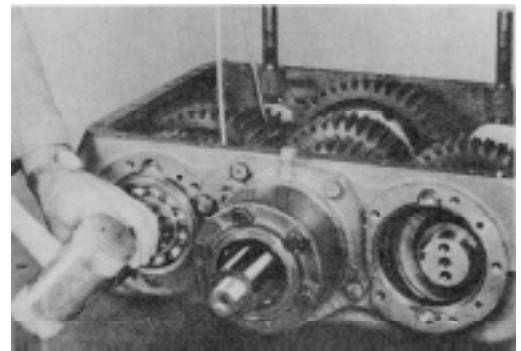

Figure 9B-89. Installing Countershaft Bearing
11. Install the countershaft front bearing retaining plates, Figure 9B-90. Secure with the capscrews and torque to 6080 lbs. ft. (81.4108.5 N.m). Secure with lockwire.